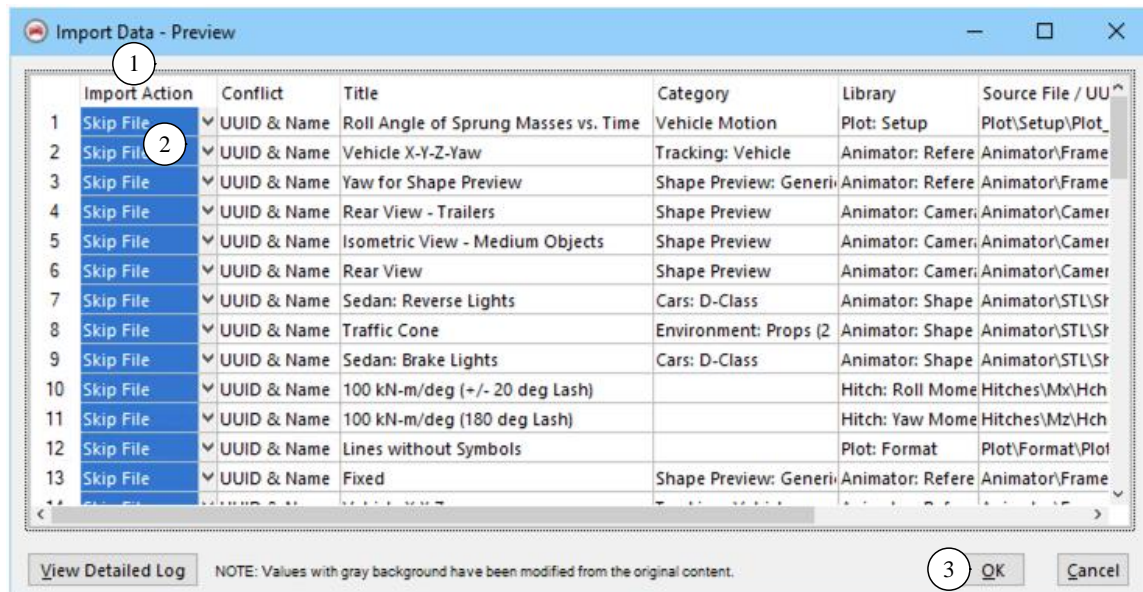

Figure 8. Preview window for imported data, showing potential conflicts and action.
5. The browser will show a window summarizing the data to be imported (Figure 8). Ideally, the **Import Action** column (1) will only show the action **Skip File** (2) (meaning a dataset already exists in the database, therefore the corresponding file in the CPAR will not be imported). To check for any possible conflicts, either scroll down the list or click the column title (**Import Action** (1)). This will reverse the order of the rows. If all the rows still show **Skip File**, no parsfile conflicts exist and you can continue with the parsfile import operation by clicking the button **OK** (3).